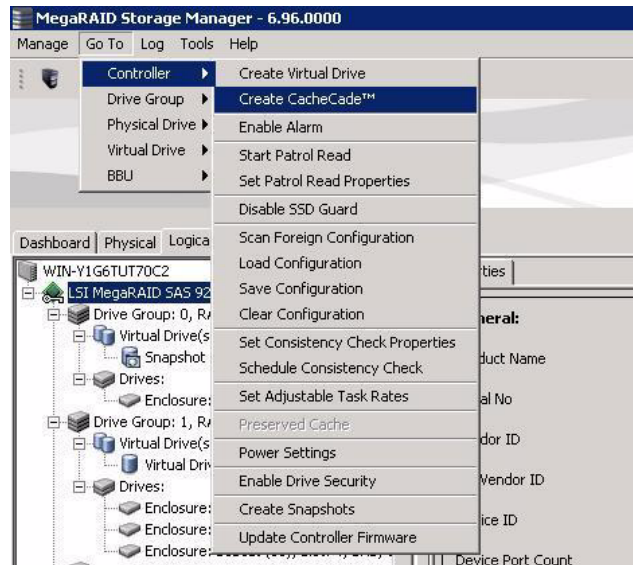

Figure 302: Create CacheCade Menu Option
2. Select **Controller >> Create CacheCade** on the menu bar, as shown in Figure 302.